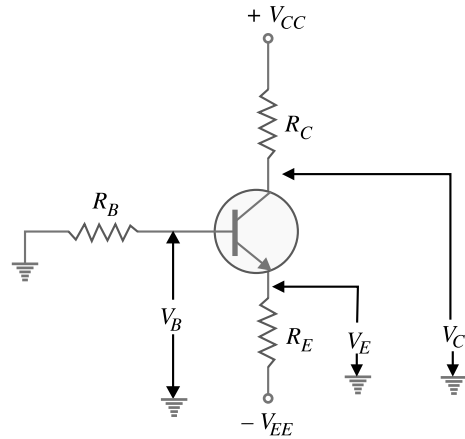

Fig. 6.46
**Solution.** Refer to Fig. 6.46.